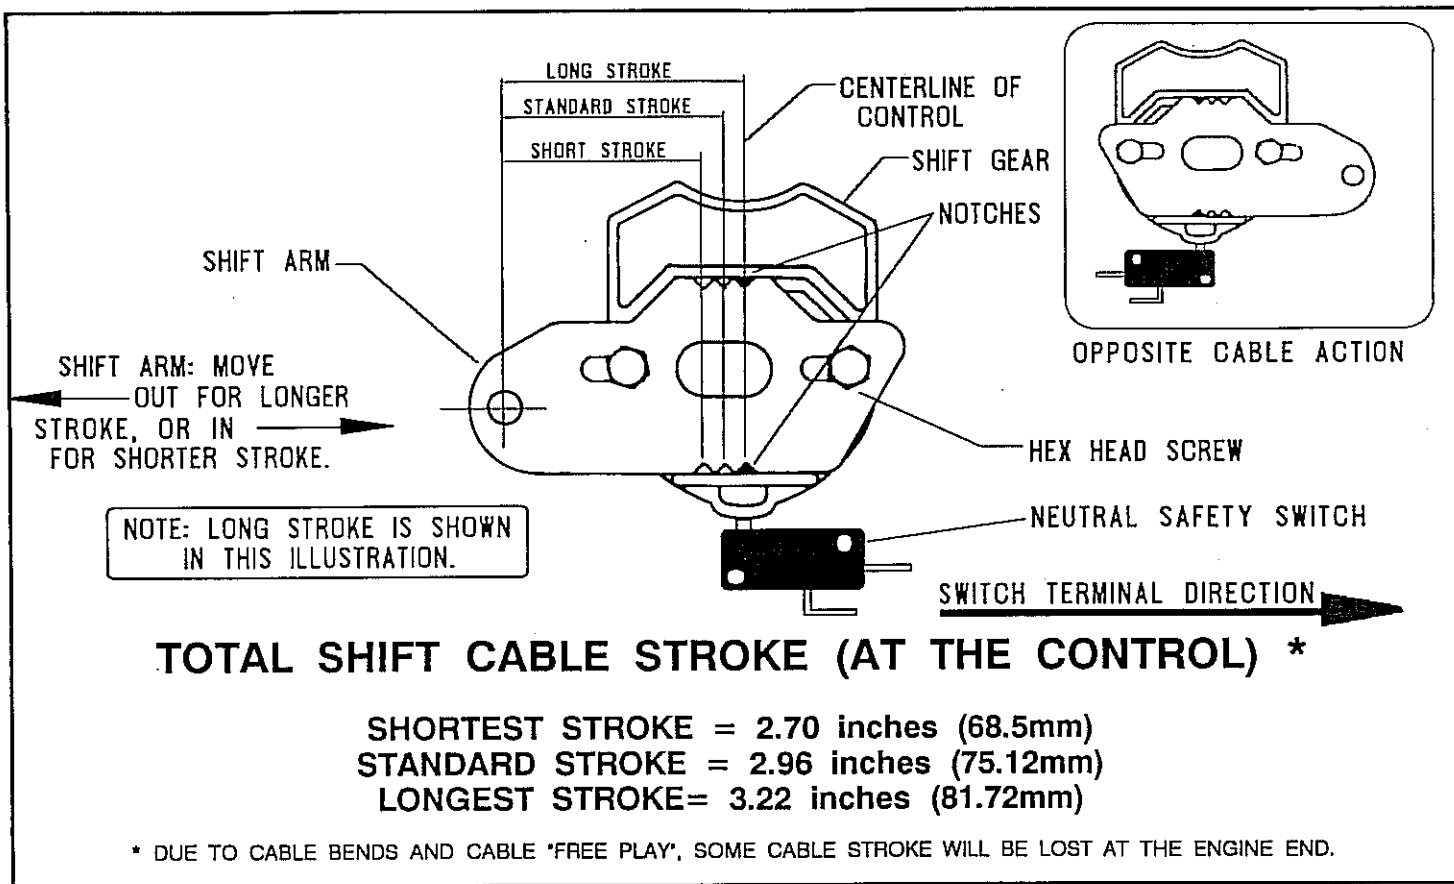

FIGURE 2 SHIFT STROKE ADJUSTMENT
- ADJUSTABLE SHIFT STROKE TO ACCOMMODATE MOST TRANSMISSION APPLICATIONS (REFER TO FIGURE 2).
The Shift Arm is factory-set for standard travel (center notch). Refer to Figure 2.
1. Loosen the two (2) Hex Head cap Screws so the Shift Arm can be lifted to clear the notches.
2. Reposition the Shift Arm to the desired stroke. Be sure the notches are properly engaged before tightening the Screws. Refer to Figure 2.